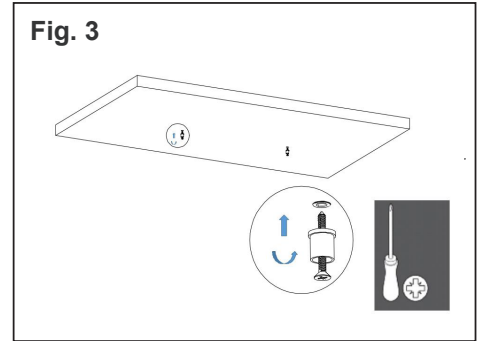

Fig. 3
3. Insert the screws into the anchors (Fig. 3).